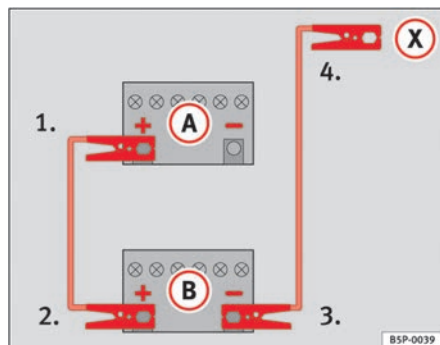

Fig. 197 How to connect the jump leads
⇒ fig. 197 (A) shows the flat battery and (B) the charged battery.
1. Connect one end of the red jump lead to the positive ⇒ fig. 197 (+) terminal of the vehicle with the flat battery ⇒ (!).
4. Connect the other end of the black jump lead (X) to a solid metal component which is bolted on to the engine block, or onto the engine block itself of the vehicle with the flat battery. Do not connect it to a point near the battery ⇒ (!).